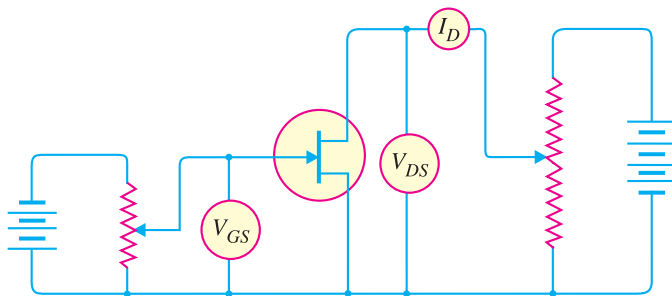
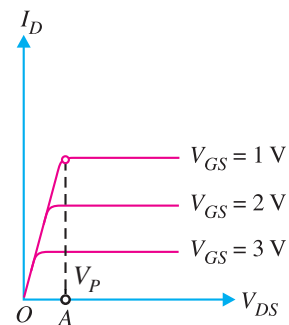

Fig. 19.7
Fig. 19.8
The curve between drain current (I_D) and drain-source voltage (V_{DS}) of a *JFET* at constant gate-source voltage (V_{GS}) is known as *output characteristics of JFET*. Fig. 19.7 shows the circuit for determining the output characteristics of *JFET*. Keeping V_{GS} fixed at some value, say 1V, the drain-source voltage is changed in steps. Corresponding to each value of V_{DS} , the drain current I_D is noted. A plot of these values gives the output characteristic of *JFET* at $V_{GS} = 1V$. Repeating similar procedure, output characteristics at other gate-source voltages can be drawn. Fig. 19.8 shows a family of output characteristics.
- (i) At first, the drain current I_D rises rapidly with drain-source voltage V_{DS} but then becomes constant. The drain-source voltage above which drain current becomes constant is known as *pinch off voltage*. Thus in Fig. 19.8, OA is the *pinch off voltage* V_p .